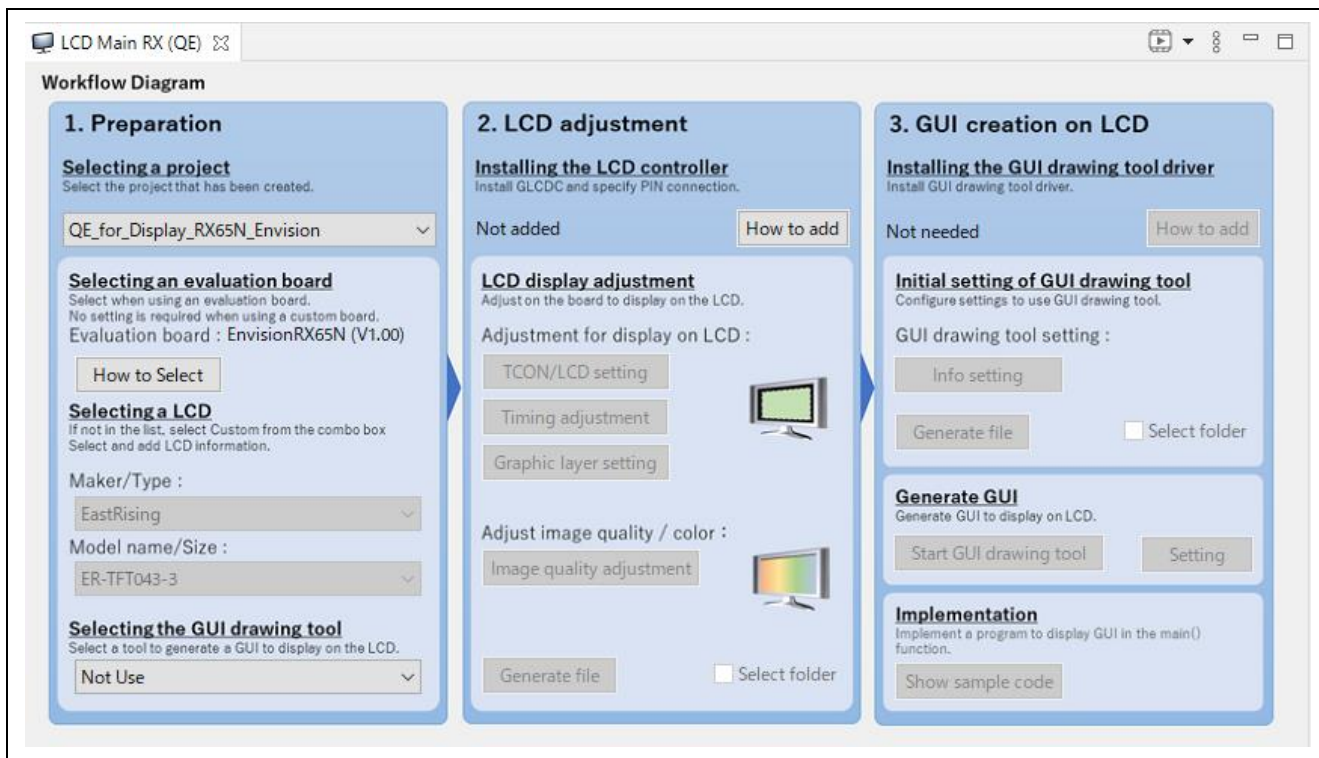

Figure 6-1 Initial State of QE for Display [RX]
Selecting “Renesas Views” -> “Renesas QE” -> “LCD Main RX (QE)” from the menu of the e2 studio starts QE for Display [RX] (Figure 6-1).